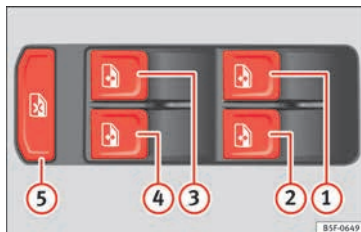

Fig. 136 Detail of the driver door: controls for the windows (5-door vehicle with front and rear electric windows).
Buttons » Fig. 136 ①, ②, ③ and ④ have two positions for opening windows and two for closing them. This makes it easier to open and close windows to the desired position.